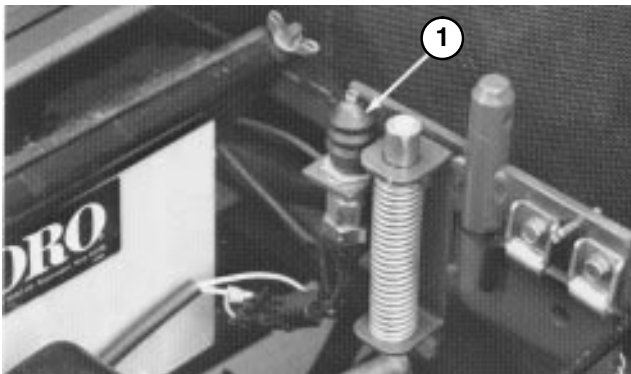

Figure 41
3. Remove boot from button end of seat switch (Fig. 41). Retain boot for reinstallation. Separate switch wire connectors.